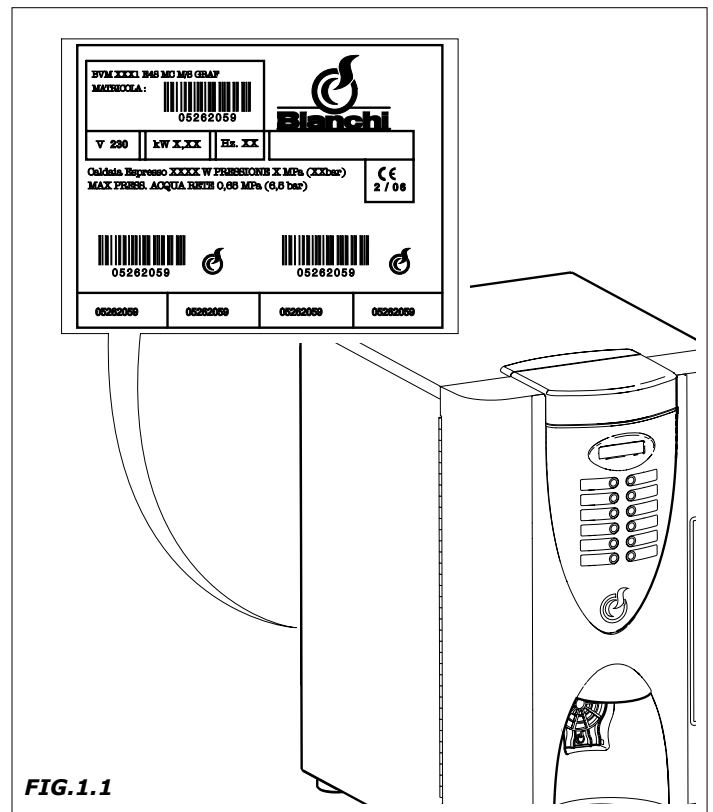

FIG. 1.1
- The data registered on the serial number label (Fig.1.1)